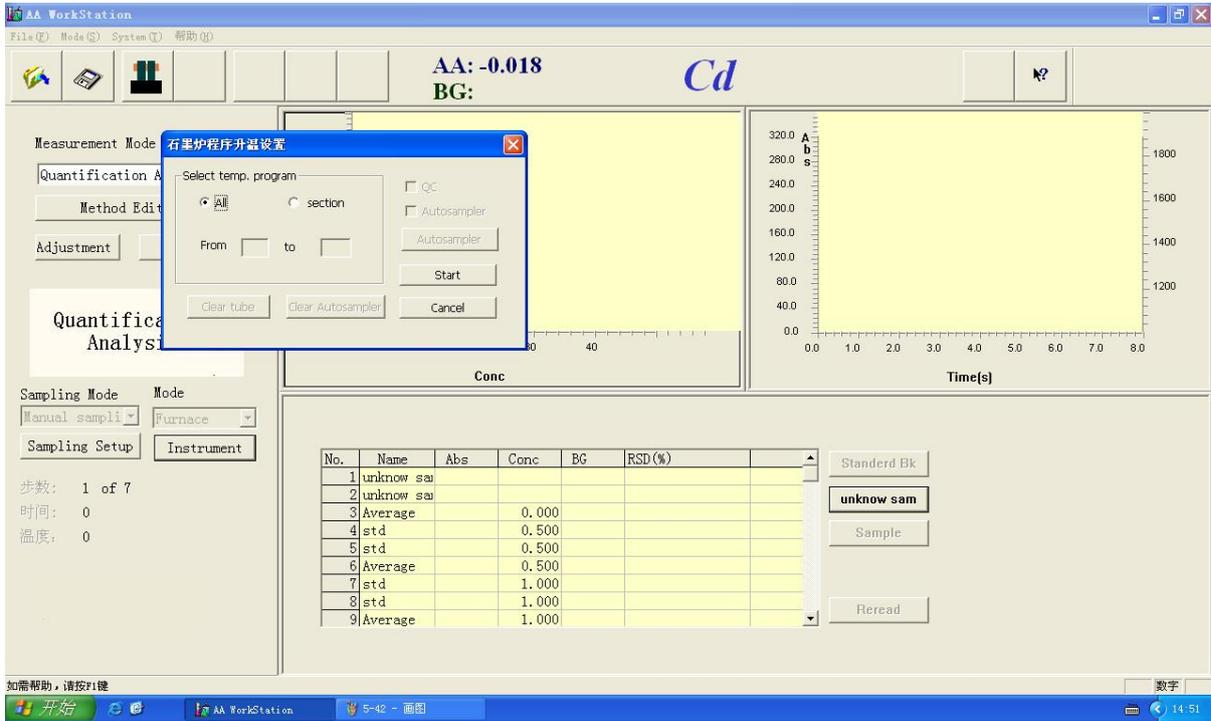

Figure 5-43
13.Press the “Start” Figure 5-43 pops up.(If close the ”Furnace Parameters Editor” window,press the “Unknown Sample”,it pops up as well).